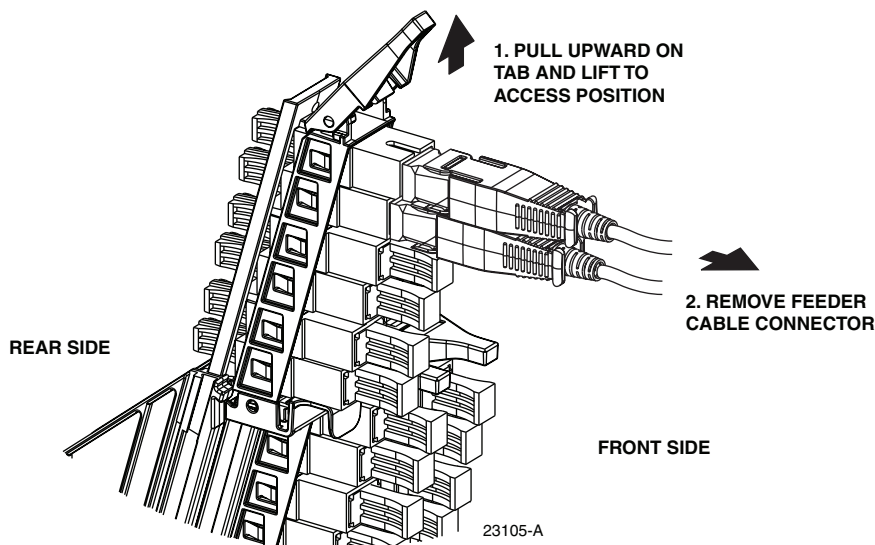

Figure 35. Typical Adapter Pack Raised to Access Position
- 17.3 Pull upward on the small tab on top of the adapter pack and lift the adapter pack to the position shown in Figure 35.